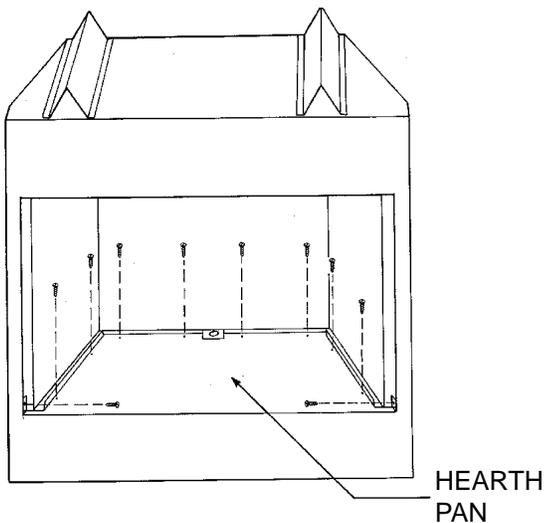

Fig. 5. Removal of hearth pan.
To remove the hearth pan, back out all screws that hold the pan in place, ten (10) screws for 42" and eight (8) screws for 36" in the bottom pan, one (1) on each side of the surround. (See Fig. 5). After installation of all accessories, replace hearth pan in reverse order of its removal.